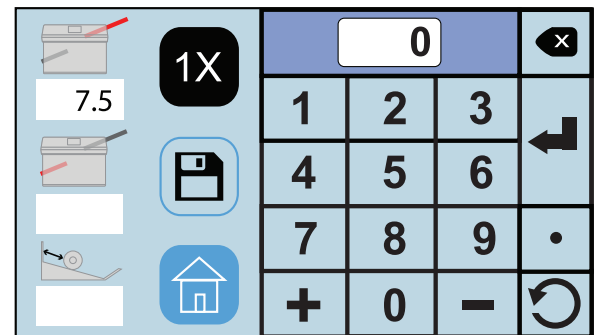

Fig. 24
Press the enter key  to enter the measurement . The white box under the icon will show the measurement entered (Fig. 24).
2. Select the lower fold plate icon  (Fig. 24) to set the fold stop position for the second fold (the icon will flash dark gray when selected). Using the touch pad, key in the measurement for the second fold stop position, (**Note:** the minimum position is 1.49" and the max. position is 8.40".).